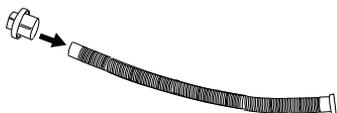
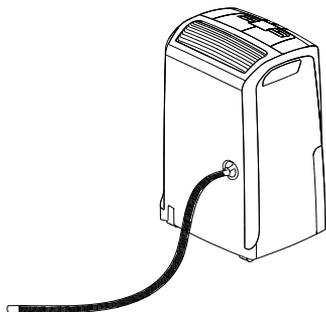

fig. 3
fig. 4
- 2) Insert the protective cap **1** on the condensate drain hose (8) as far as it will go (fig. 3), then screw the protective cap back onto the spout (fig. 4).